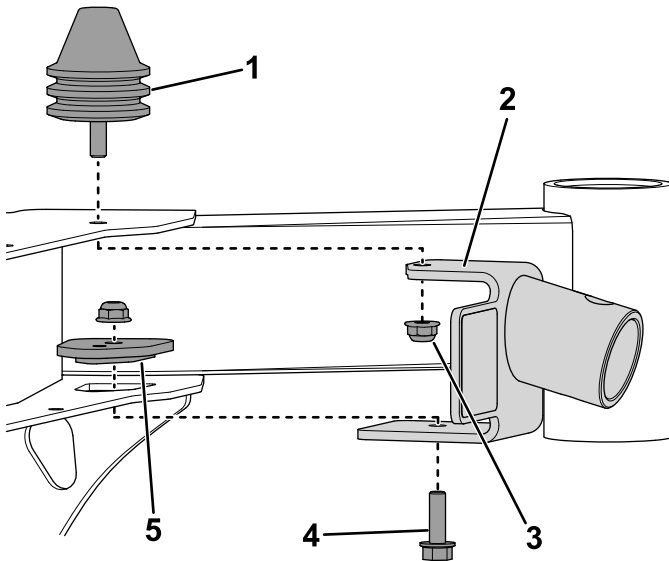

Figure 2
3. Secure the jack mount to the frame using 1 bolt, 2 locknuts, backer plate, and the previously removed bumper (Figure 2).